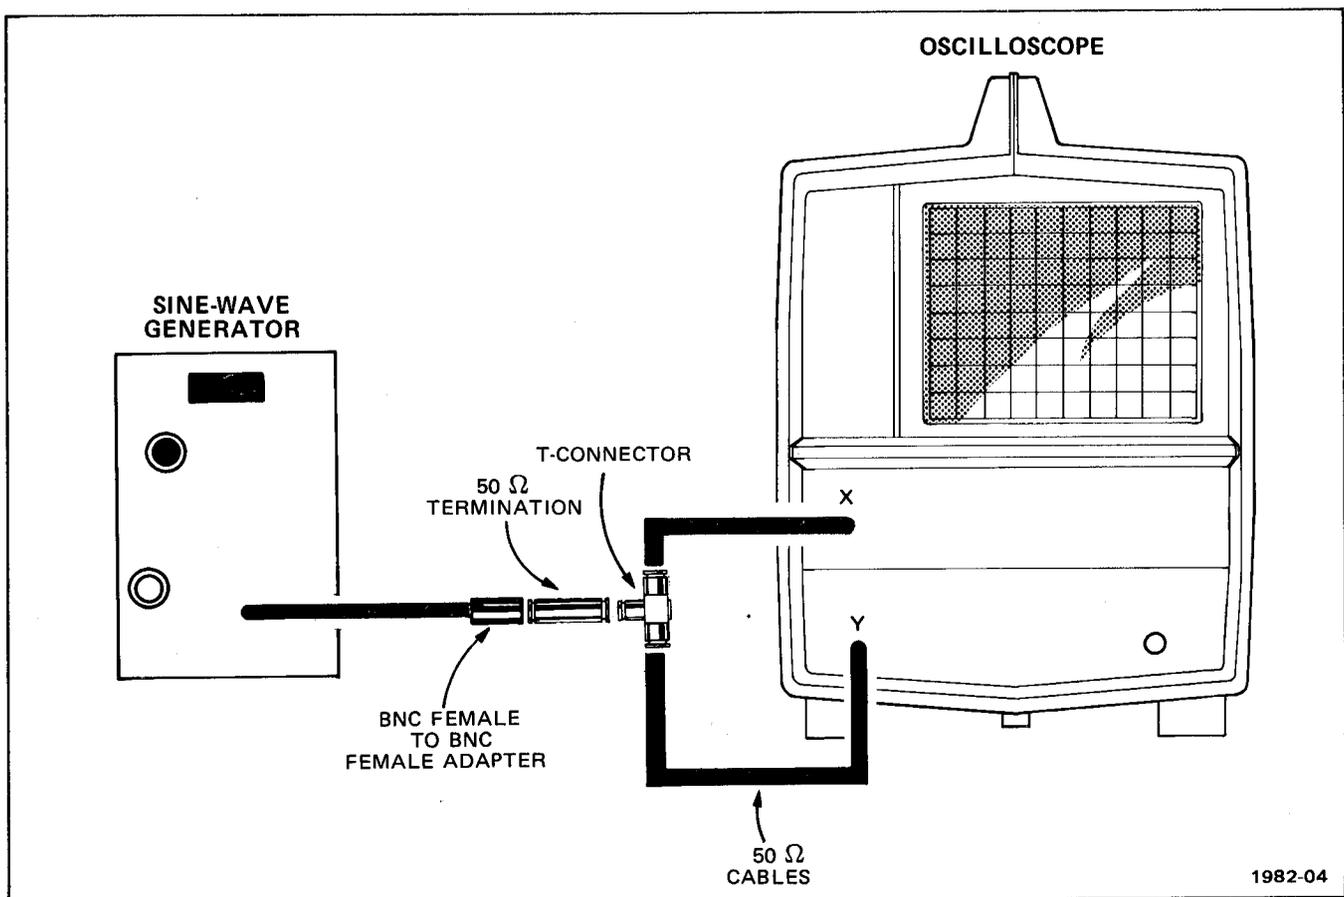

Fig. 3-4. Triggering and Z-axis input check test setup.
a. Connect test equipment as shown in Fig. 3-4.